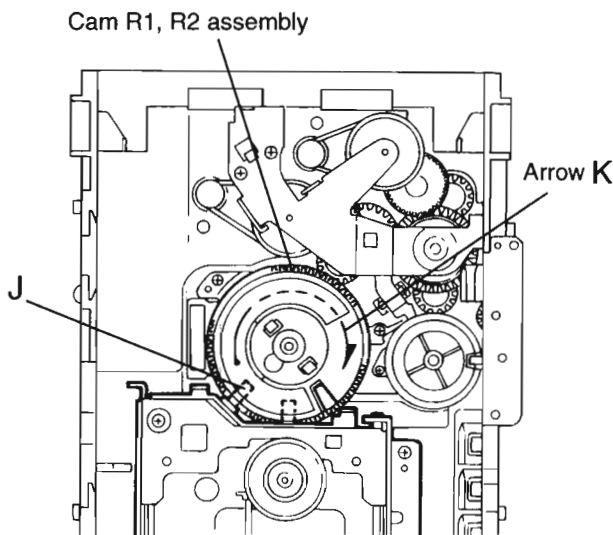

Fig.11
Removing the CD traverse mechanism (See Fig.11 and 12)
1. For dismantling only the CD traverse mechanism without removing the CD loading mechanism assembly, align the shaft "J" of the CD loading mechanism assembly to the position shown Fig.11 while turning the cam R1 and R2 assembly in the arrow direction "K" .
■ **Removing the Reel Pulse P.C.Board and Solenoid (See Fig 11)**
1. Remove the five pawls (③ ④ ⑤ ⑥ ⑦) retaining the reel pulse P.C.Board.
2. From the surface of the reel pulse P.C.Board parts, remove the two pawls ⑧ and ⑨ retaining the solenoid.